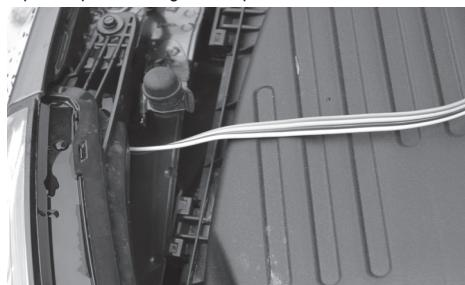

Figure 9
13. From inside engine compartment route fish tape down through wheel well shown in **Figure 9**. Secure 4-flat to fish tape and pull into engine compartment.